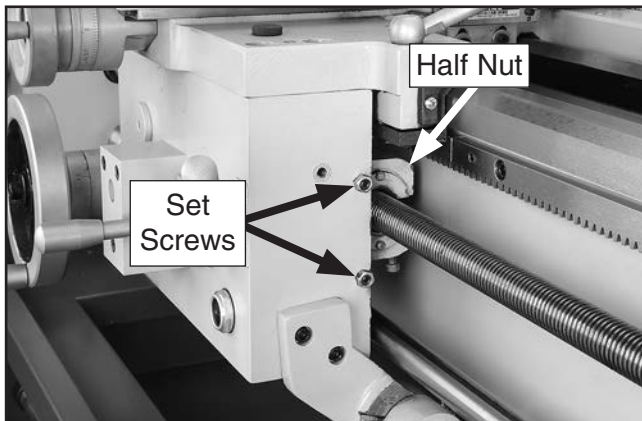

Figure 134. Typical half nut gib set screws.
3. Loosen hex nuts on set screws shown in **Figure 134**.